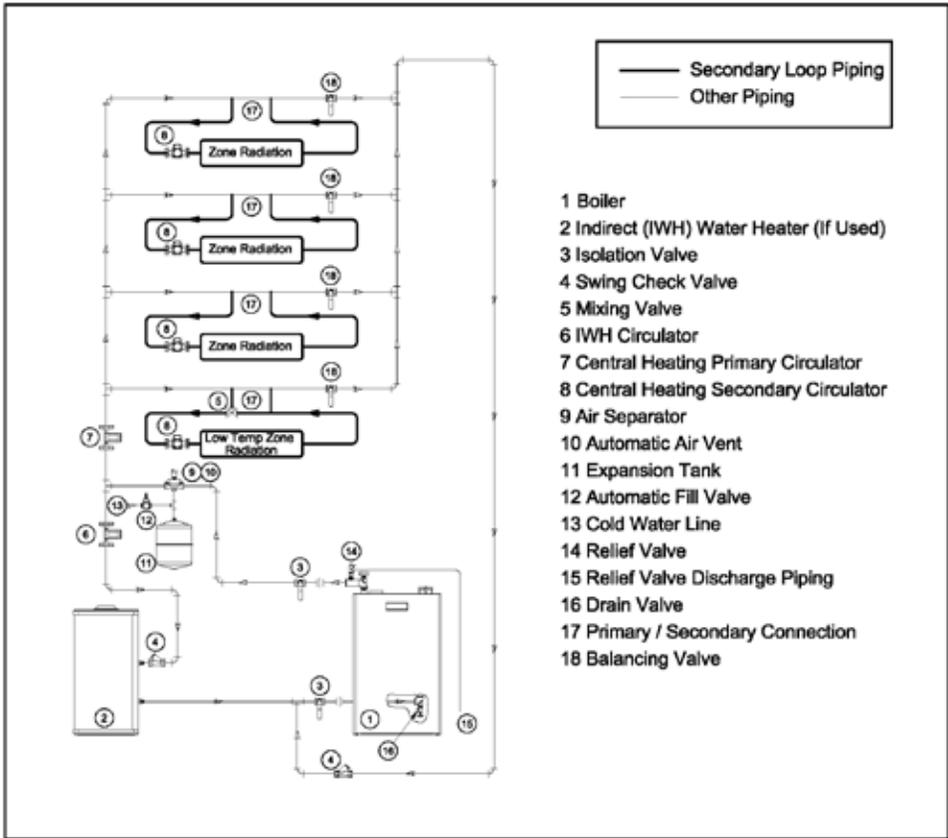

Figure 8.10a: Piping Method #2 - Secondary Loop Piping (Bolded)
- 1) Heating System Secondary Loop Piping - The heating system secondary loop piping is shown in Figure 8.10a. Size each secondary zone circulator and piping to obtain the design flow rate for that zone as you would on any other heating system. When the heating zone requires a water temperature below that to be controlled by the boiler, provide a mixing valve or blending station for that zone. In order to keep the flow rates in the primary and secondary loops independent of each other, provide at least 8 diameters of straight pipe upstream of the first secondary tee and 4 diameters downstream of the second secondary tee.